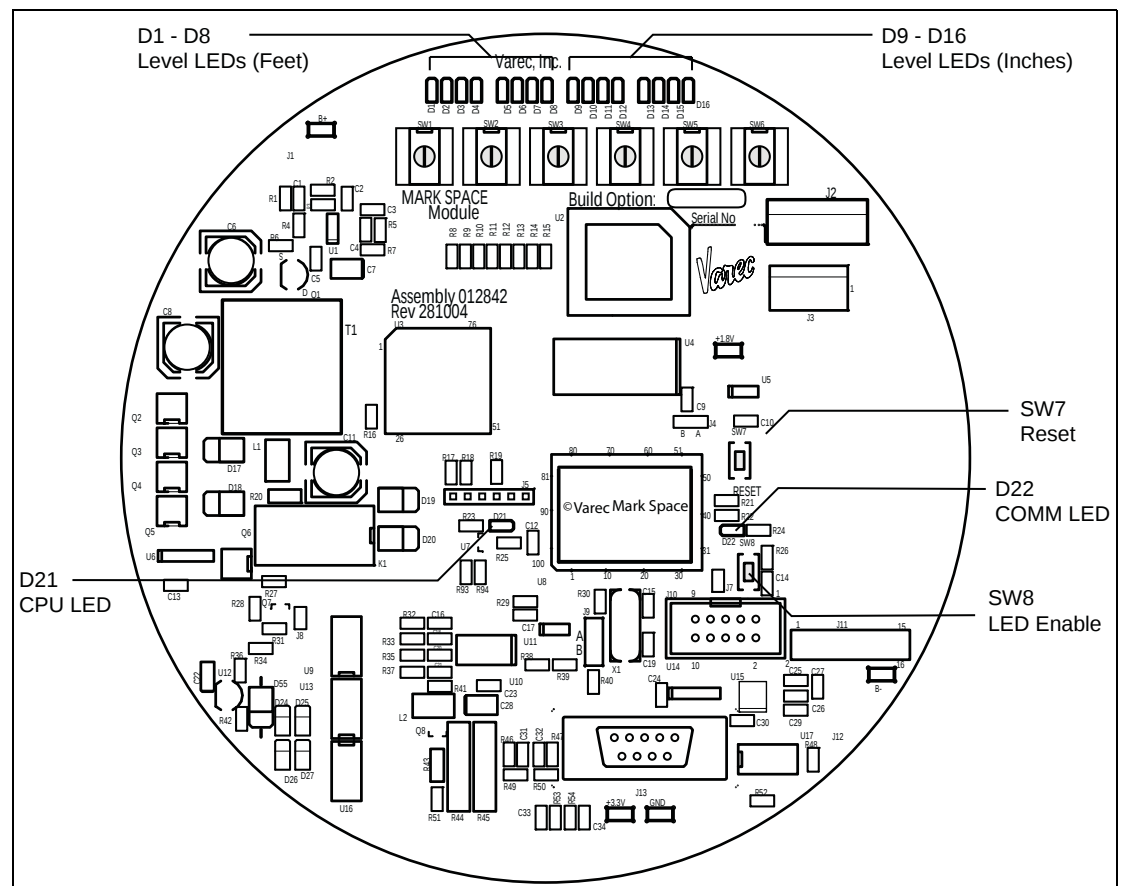

Figure 7-1: Mark/Space Communication Board Configured for L&J Tankway – Switches and LEDs
See Figure 7-1 for the location of the switches and LEDs on the 2900 FTT Mark/Space communications circuit board.
**Note** To activate the LEDs on the communications circuit board, press switch SW8, shown in Figure 7-1. The LEDs will be enabled for about three minutes.